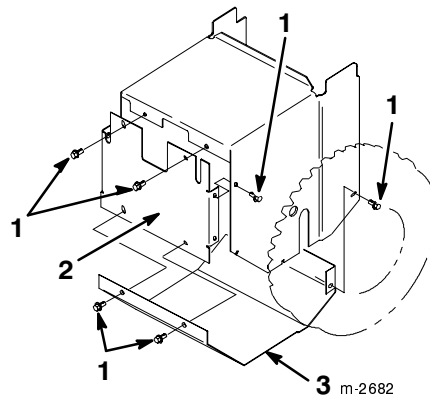

Figure 36
4. Remove the eight screws that hold the back and the bottom covers in place and remove the covers (Fig. 36).